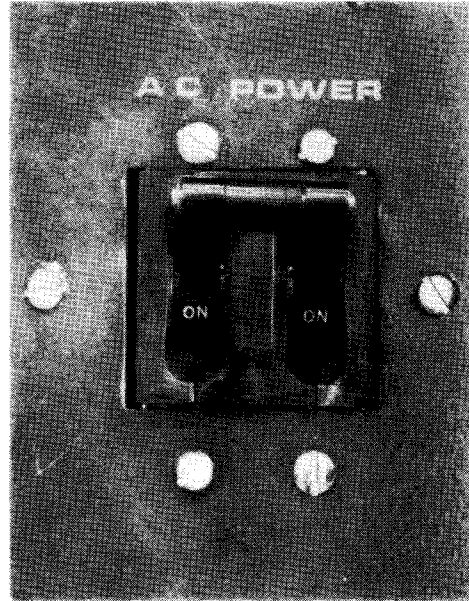

Figure 6-12. 0717 Card Reader Subsystem, AC POWER Circuit Breaker
→ Power to the card reader is normally controlled from the **POWER ON/POWER OFF** switch on the processor operator/maintenance panel (Figure 2-2). However, to turn on from this switch, the **AC POWER** circuit breaker on the card reader (Figure 6-12) must first be set to the **ON** (up) position and all cabinet doors must be closed. This circuit breaker remains on unless independent power turn off is desired.
2. Set **AC POWER** circuit breaker (Figure 6-12) to **OFF** (down).